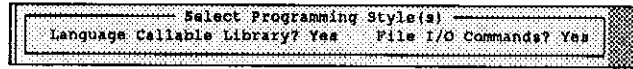

Figure 2-11. Select Command Style
- Use the **↑** or **↓** keys to select a YES or NO response. Repeat this procedure for **Call Interface**. Your selections will look something like Figure 2-11.